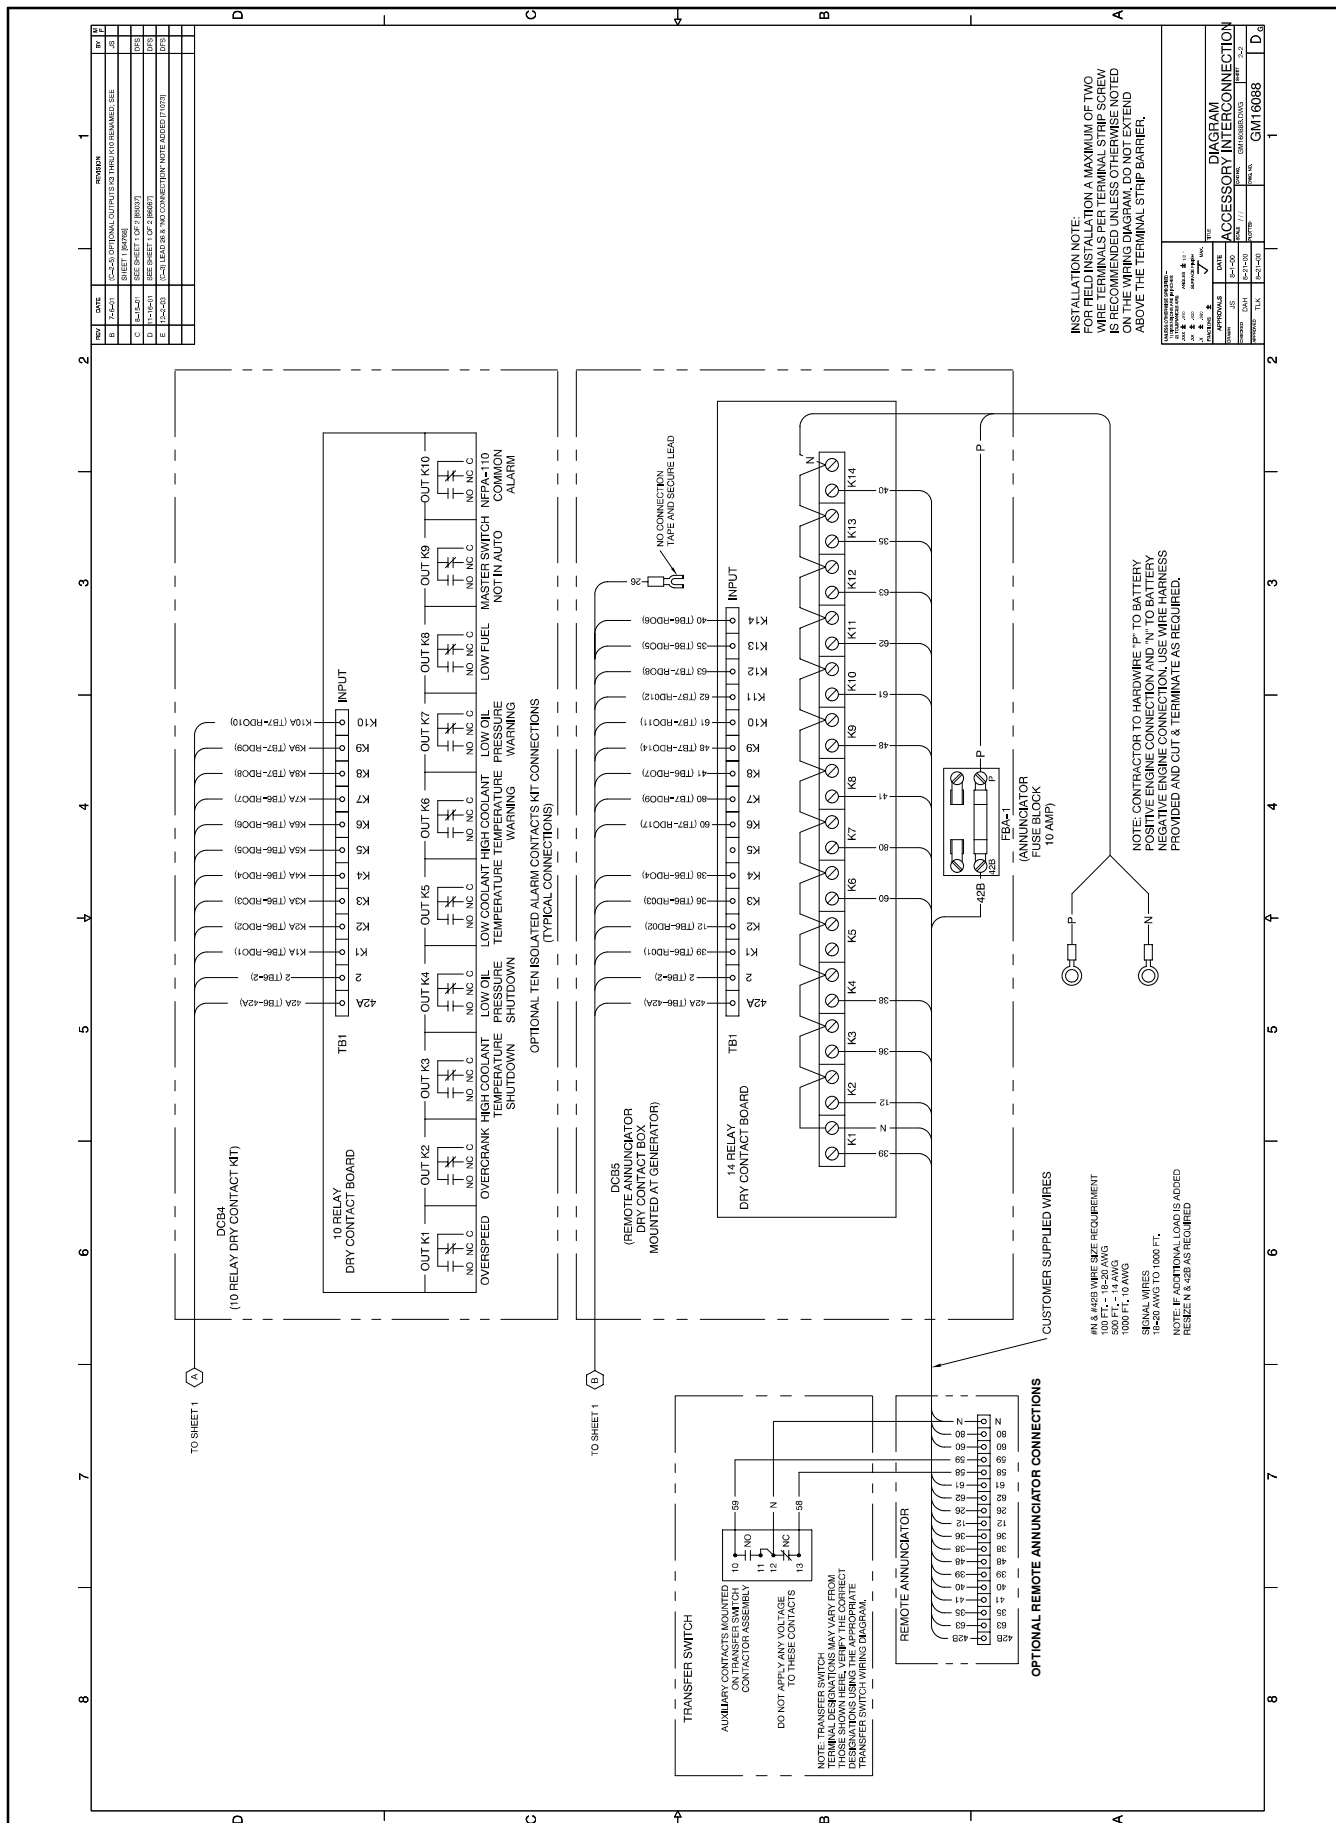
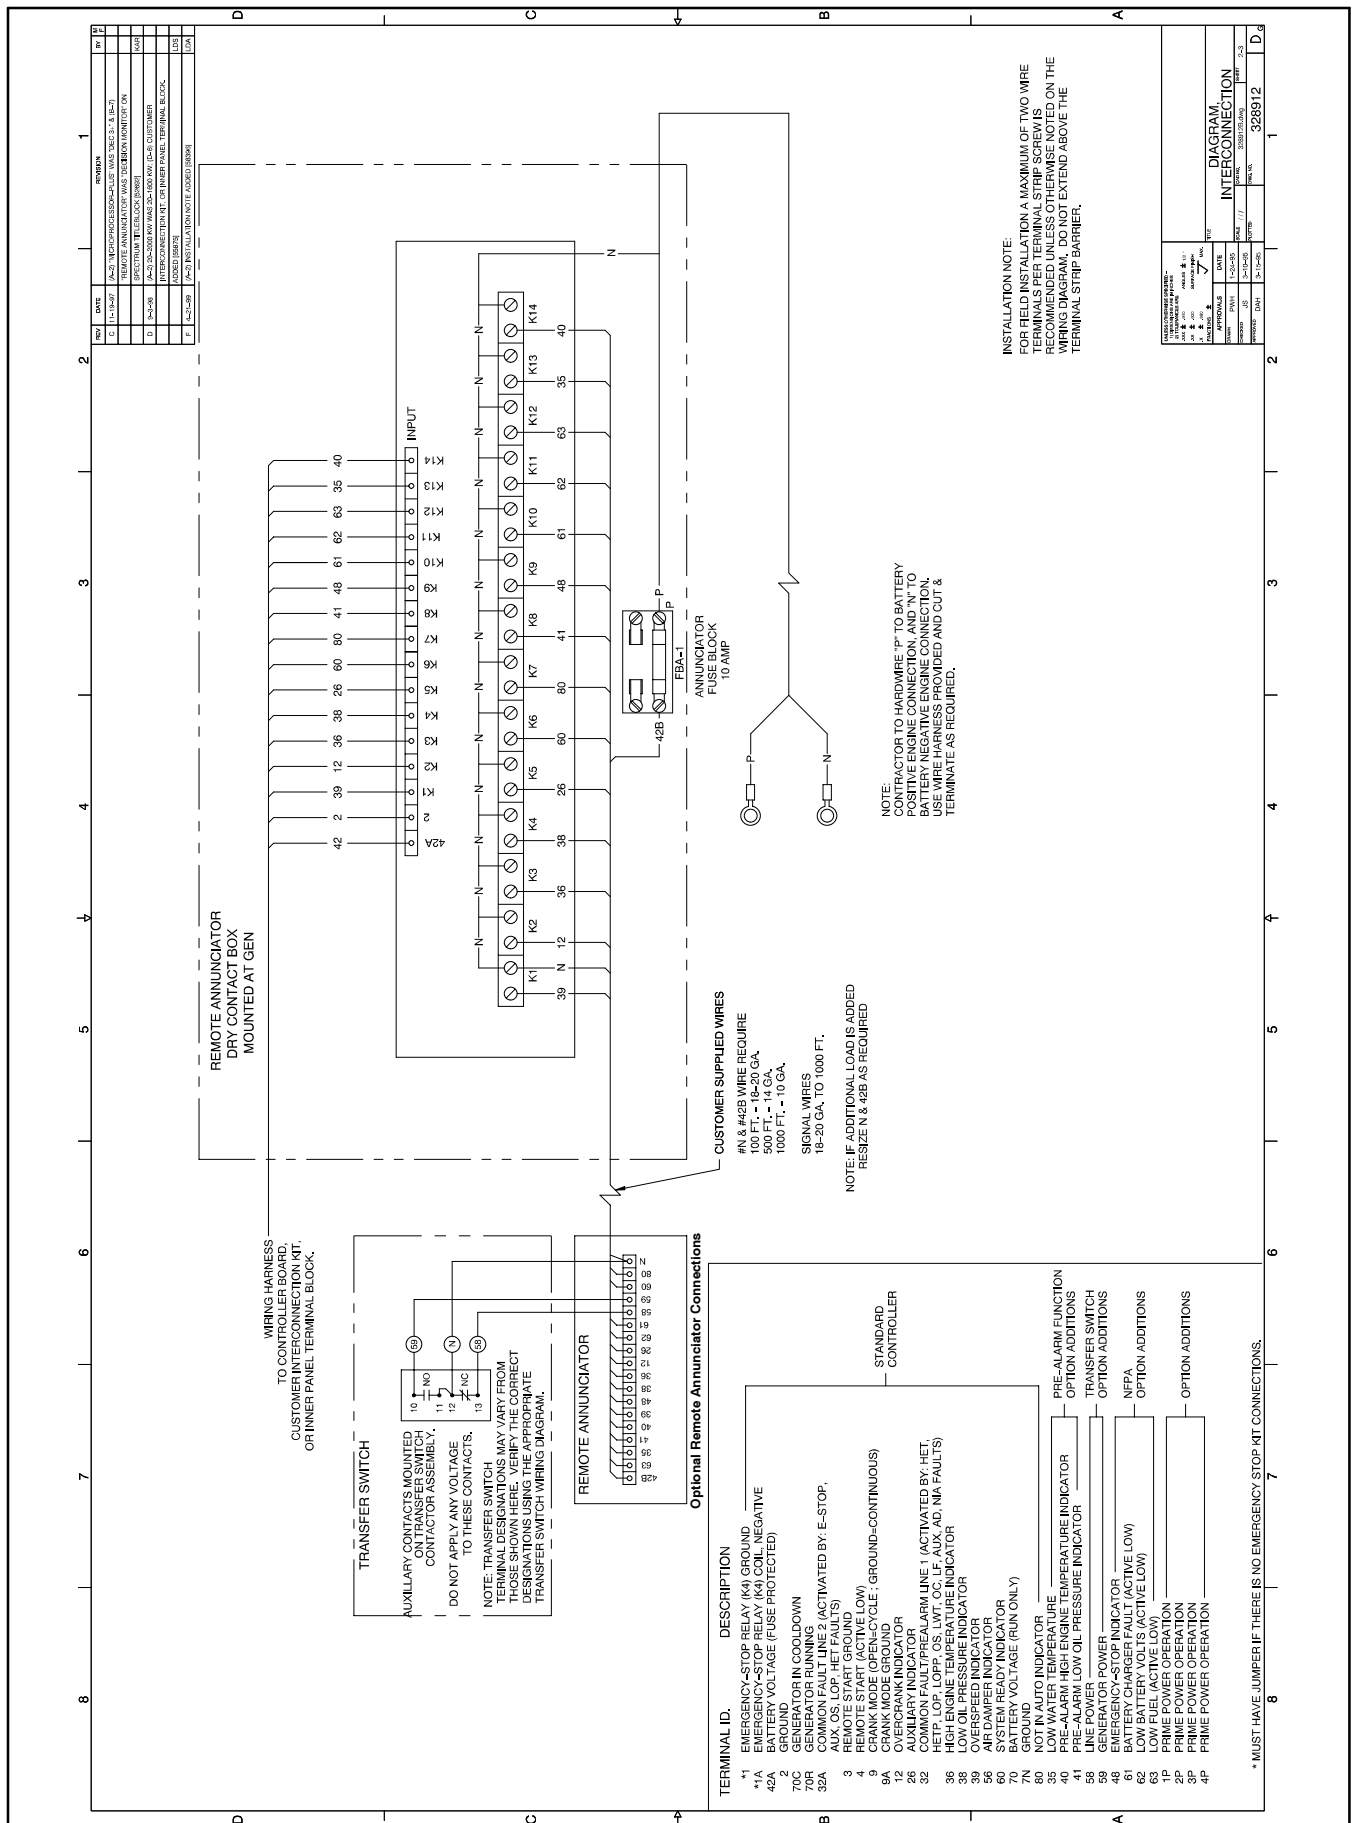

Figure 3 14-Relay Dry Contact Assembly Connections with 550 Controller
Figure 4 14-Relay Dry Contact Assembly Connections with 16-Light Controller
- 2.3 Use Figure 3 or Figure 4, as needed, for connecting the 14-relay dry contact assembly to the remote annunciator panel.